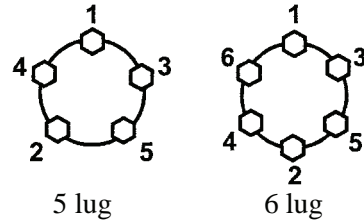

Figure 6
- c- Using the proper sequence shown in figure 6, tighten the lug nuts to the 1st stage torque as